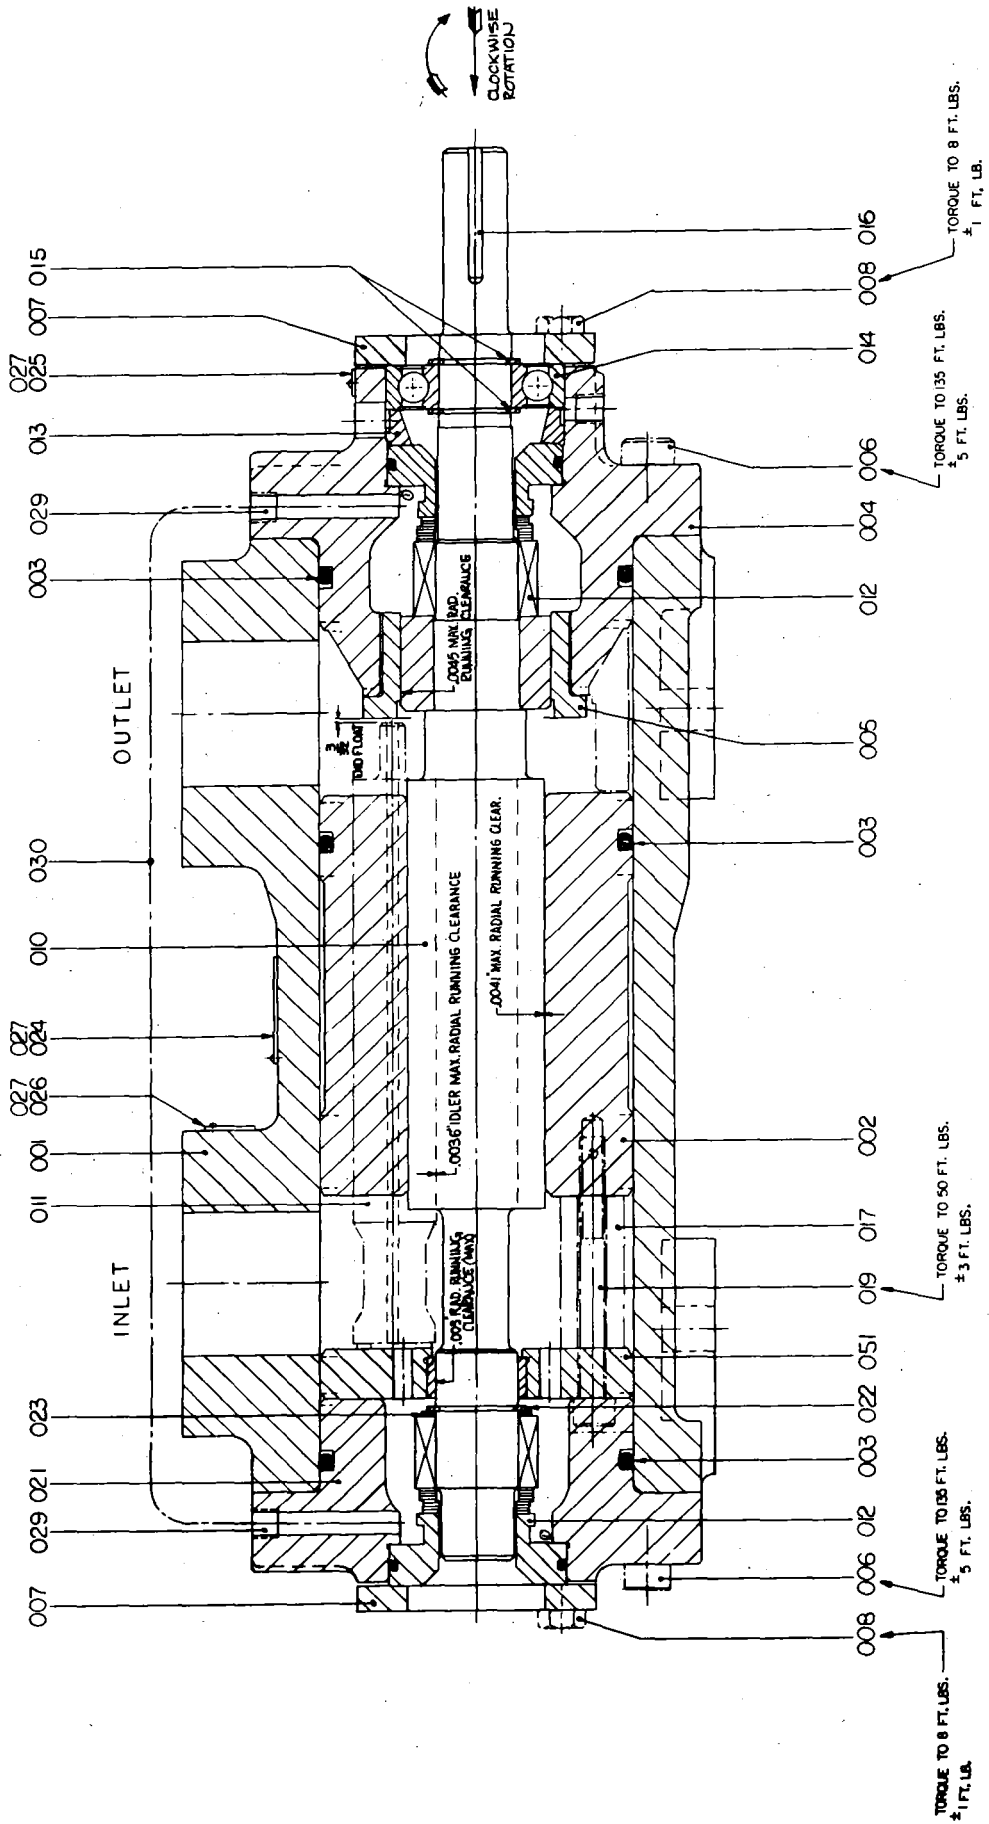

FIGURE 5. Assembly Drawing SD-5475
STEP 1. Close off suction and discharge piping to pump and disconnect piping. Remove tubing (030) by loosening elbows (029). Drain pump case. Remove pump from driver, coupling and bracket. Remove coupling hub and key (016).
STEP 2. Remove bolts (008) and outboard retainer (007) from outboard cover (021).
STEP 3. Remove capscrews (006) and assembled outboard cover (021). Disassemble outboard cover (021) as follows:
- a. (*Figure 5*) Removal of outboard cover (021) assembly includes removal of O-ring (003), elbow (029) and mechanical seal stationary seat and O-ring (1 and 2, Figure 1).
STEP 5. Remove shim (023) and rotating ring (022) from power rotor (010) shaft.
STEP 6. Remove bolts (008) and inboard retainer (007) from inboard cover (004).
STEP 7. Remove power rotor (010) assembly consisting of retaining rings (015), bearing (014), spacer (013), and mechanical seal (012). NOTE: (*Figure 5*) Removal of power rotor (010) also removes seat adapter (032) assembly.
STEP 8. Disassemble power rotor (010) as follows:
- a. Remove outer retaining ring (015) from groove of power rotor (010).
- b. Press ball bearing (014) off power rotor (010).
- c. Remove inner retaining ring (015) from groove of power rotor (010).
- d. Remove spacer (013) from power rotor (010).
- e. *(Figure 5)* Remove mechanical seal stationary seat and O-ring (1 and 2, Figure 1) from power rotor (010) as outlined in Mechanical Seals.
NOTE: Prior to assembly of pump, all parts should be cleaned and inspected for nicks and burrs. Replace all worn or damaged parts. The IMO Pump Division recommends automatic replacement of O-rings (003 and 034), mechanical seal (012) and bearing (014) when these parts are disturbed from their previously installed position. Refer to pump assembly drawings (Figures 5 and 6) and Parts List (Table 2) during assembly. Assembly procedures for Figures 5 and 6 pumps are identical except when specifically noted for assembly of mechanical seals, Steps 4 and 12. Coat all parts with a light lubricating oil to assist in assembly.
STEP 1. Assemble and install housing (002) as follows:
- a. Install spacers (017) and thrust plate (051) assembly, consisting of plate and bushing, on housing (002) using capscrews (019). Tighten capscrews (019) finger tight only to permit adjustment of
- b. (*Figure 5*) Install mechanical seal stationary seat and O-ring (1 and 2, Figure 1) on power rotor (010) as outlined in Mechanical Seals.
- a. Measure distance from counterbore of outboard cover (021) to installed retaining ring (022) to determine dimension "A".
- b. (Figure 5) Measure distance from face of seal seat (face that mates with counterbore of outboard cover) to outer face of seal seat (face that mates with rotating assembly) to determine dimension "B".
STEP 12. Assemble and install outboard cover (021) as follows:
- a. (Figure 5) Install mechanical seal stationary assembly (1 and 2, Figure 1) in outboard cover (021).
LIST OF MATERIALS (FIGURES 5 AND 6)